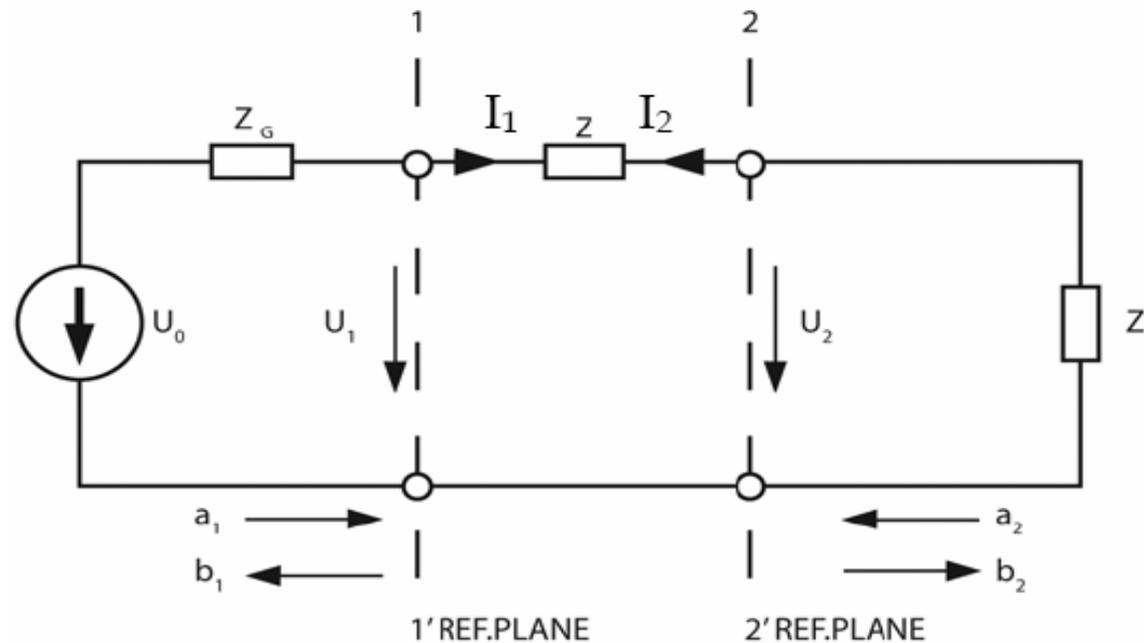

Fig. 1 2-port network
- ◆ Let us start by considering a simple 2-port network consisting of a single impedance Z connected in series (Fig. 1). The generator and load impedances are Z_G and Z_L , respectively. If $Z = 0$ and $Z_L = Z_G$ (for real Z_G) we have a matched load, i.e. *maximum available power* goes into the load and $U_1 = U_2 = U_0/2$.
- ◆ Using Eqs. 2.4 and 2.7 we find the reflection coefficient of a single impedance Z_L connected to a generator of source impedance Z_0 (Fig. 1, case $Z_G = Z_0$ and $Z = 0$)
- ◆ Let us now determine the S parameters of the impedance Z in Fig. 1, assuming again $Z_G = Z_L = Z_0$. From the definition of S_{11} we have